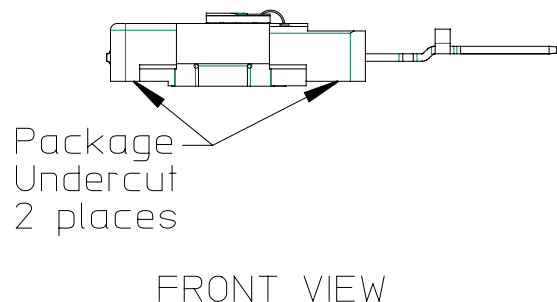

Figure 3b.
2. There is an undercut in the black LCP (plastic) on the bottom of the package, adjacent to the heat slug. Take care not to put unsupported pressure on the top side of the package over those areas, as the heat slug could become a fulcrum, resulting in a potential fracture stress. See Figure 3b.